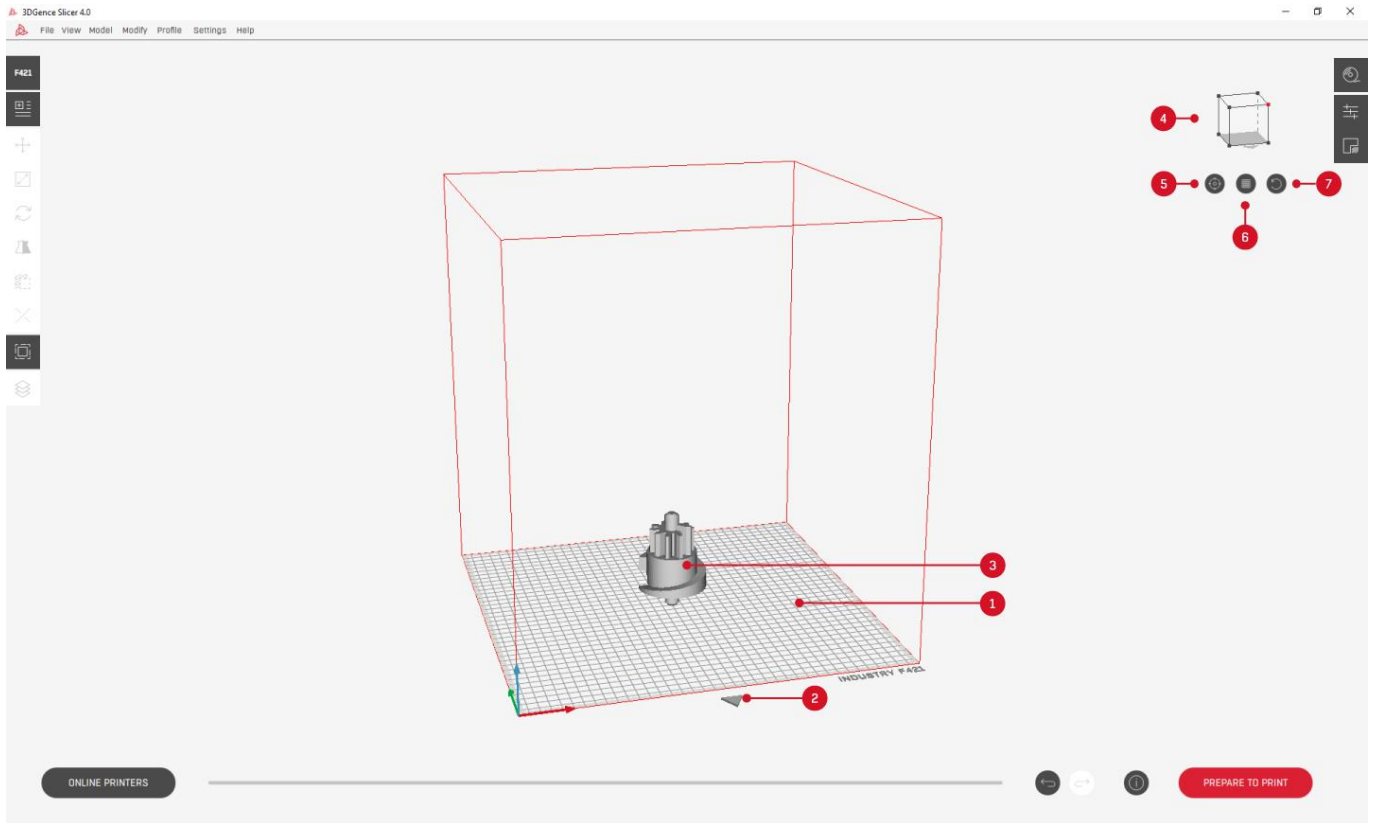

Fig. 25 Virtual heated bed
1. The virtual heatbed (Fig. 25) – is a graphic representation of the machine working area, where the models to be printed are set. The software will not allow printing of models which partially protrude outside of the working area. The models which do not fit the heatbed are highlighted red. The size of the area changes dynamically when the printer is selected. Part of the working area is in most cases reserved to the print, e.g. of a raft which improves the print adhesion to the heatbed. It is recommended to print within the distance of at least 5 mm from the working field edge.